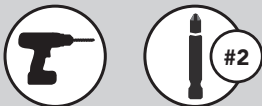

FIGURE 3
Extend the slides and mount the metal box using the (4) M4x5 machine screws (See Fig 3).